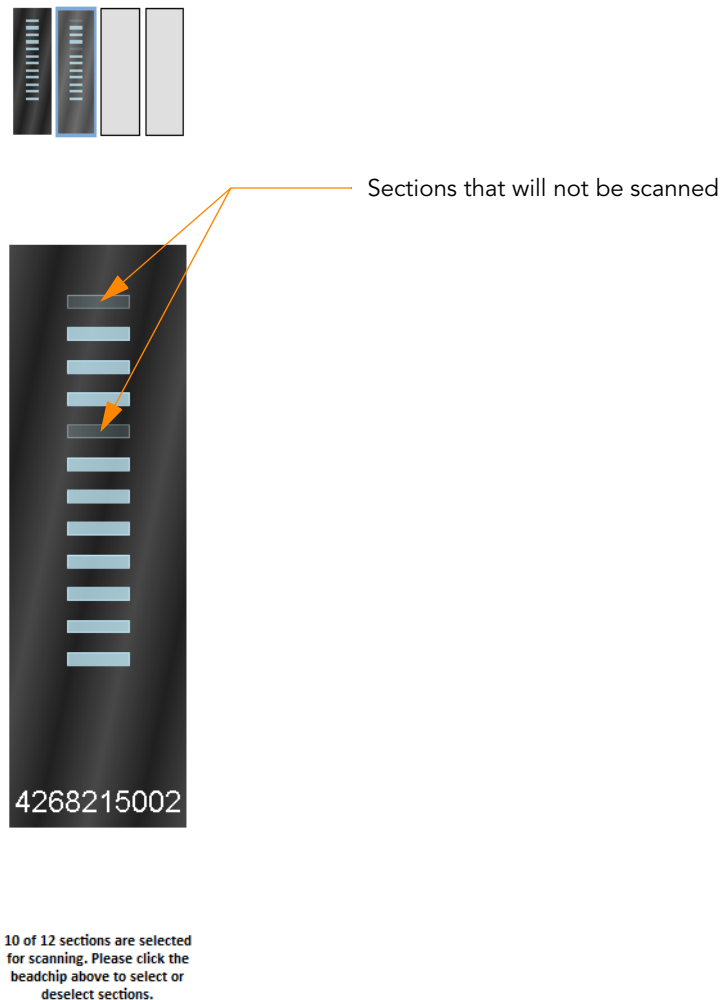

Figure 186 Deselect BeadChip Sections
2. If you do not want to scan certain sections of a BeadChip, click the barcode to display an image of the corresponding BeadChip in the Setup window. Click any BeadChip section to remove it from the scan (Figure 186). The section will no longer be highlighted blue.